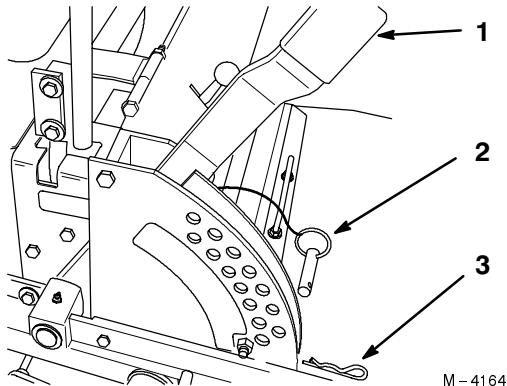

Figure 11
1. Raise the height-of-cut lever to the transport position (also the 5" (127 mm) cutting height position) (Fig. 11).
2. To adjust, remove hairpin cotter and clevis pin from height-of-cut bracket (Fig. 11).
3. Select hole in height-of-cut bracket corresponding to the height-of-cut desired and, insert clevis pin (Fig. 11).
4. Secure clevis pin with hairpin cotter (Fig. 11).